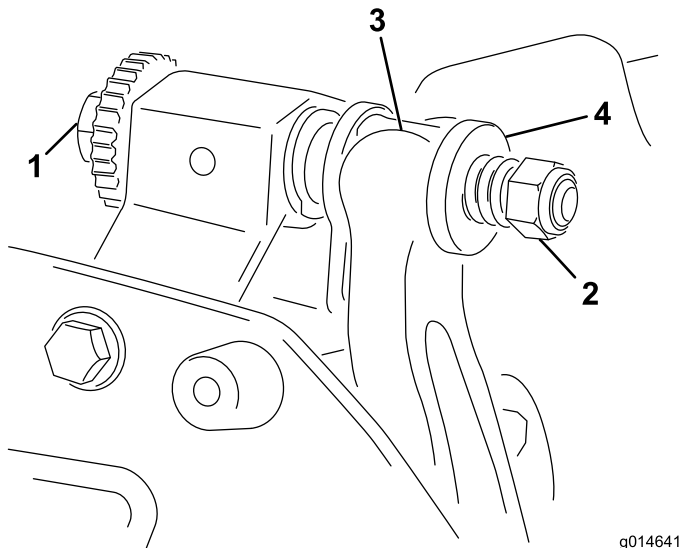

Figure 16
1. Turn the bedbar adjusting screw, counterclockwise, to back the bedknife away from the reel (Figure 16).
2. Back out the spring tension nut, until the washer is no longer tensioned against the bedbar (Figure 16).